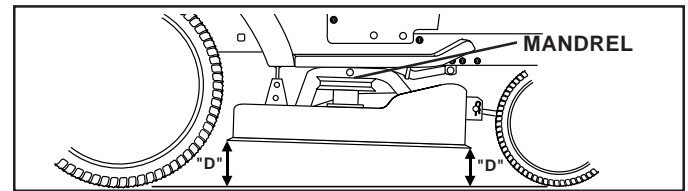

FIG. 19
**FRONT-TO-BACK ADJUSTMENT (See Figs. 19 and 20)**